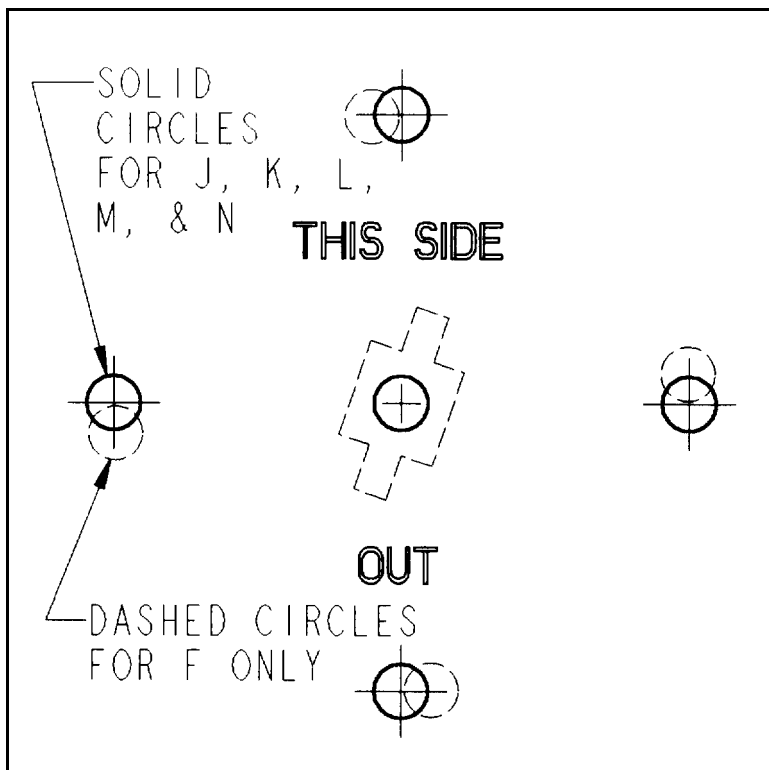

Fig. 4-1 Full Size Drill Template
4. Close enclosure door. Cut out the dotted line of the shaft on the template provided in the hardware kit or in Figure 4-1. Do not cut out the handle mounting screw holes. Place the template over the shaft ensuring the proper side is facing out. Align the template with the shaft and mark the handle mounting holes for the "F" frame breaker (dashed lines). Drill (4) .281" (7.0 mm) diameter holes.